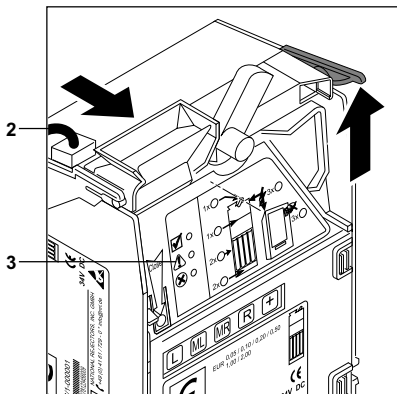

Fig. 5b: Folding out the coin validator
- 3 Fold out the coin validator (see Fig. 5b).
- 6 Connect the changer to the vending machine using the MDB/PC connecting cable 2 (see Fig. 5b) and also connect any external devices, such as hopper or recycler, to the changer.
- 8 Reconnect the vending machine to the mains supply. The three LEDs 3 on the coin validator light up briefly to test their function. Afterwards, the green LED lights up. The changer is operational (see Fig. 5b).